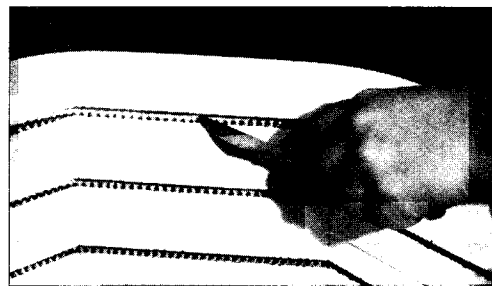

Figure 24
- d. Use a table knife or closed needle-nose pliers to gently press element down into groove (see Figure 24).